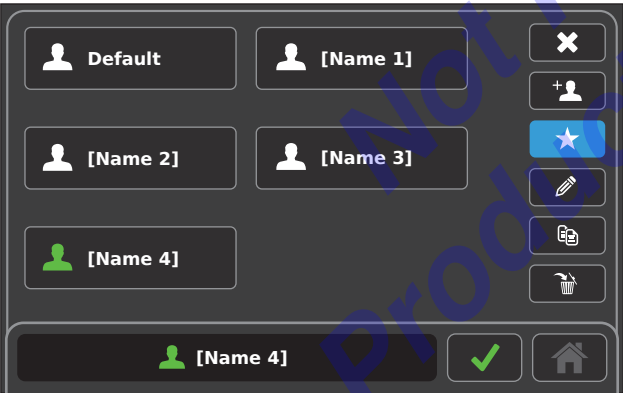

Figure 59 – Favorite Preset Selection
- Touch the desired preset to make a selection (Figure 59).